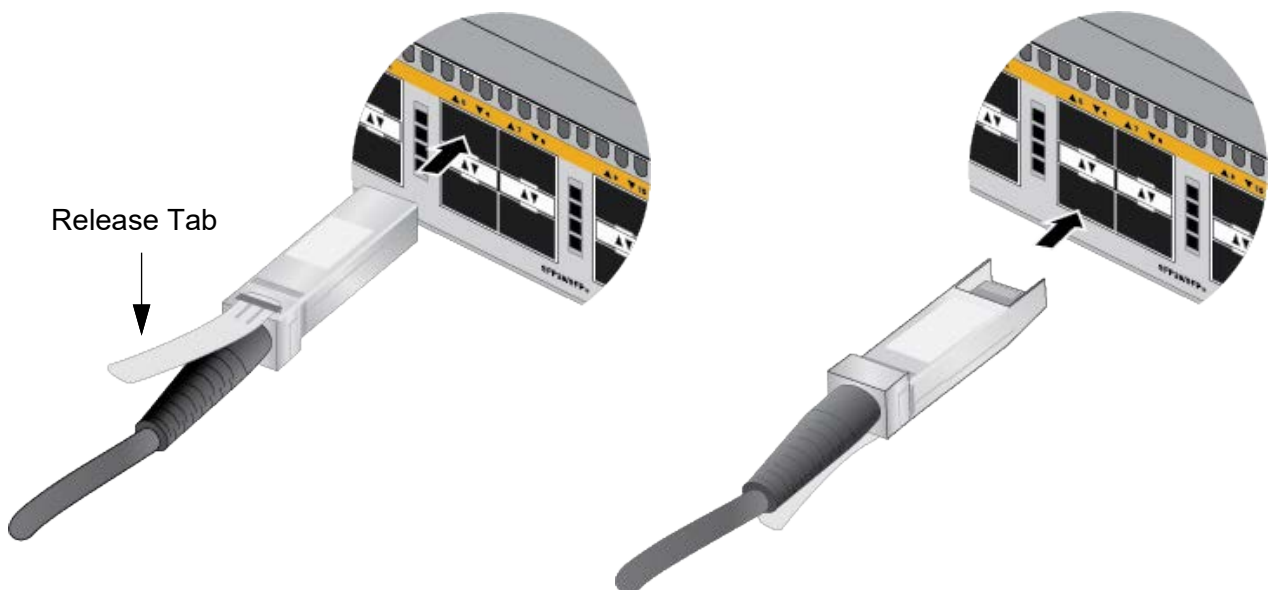

Figure 40. Installing SP10TW Direct Attach Cables
- Figure 40 shows the orientations for SP10TW direct attach cables installed in SFP28/SFP+ ports 5 and 6.